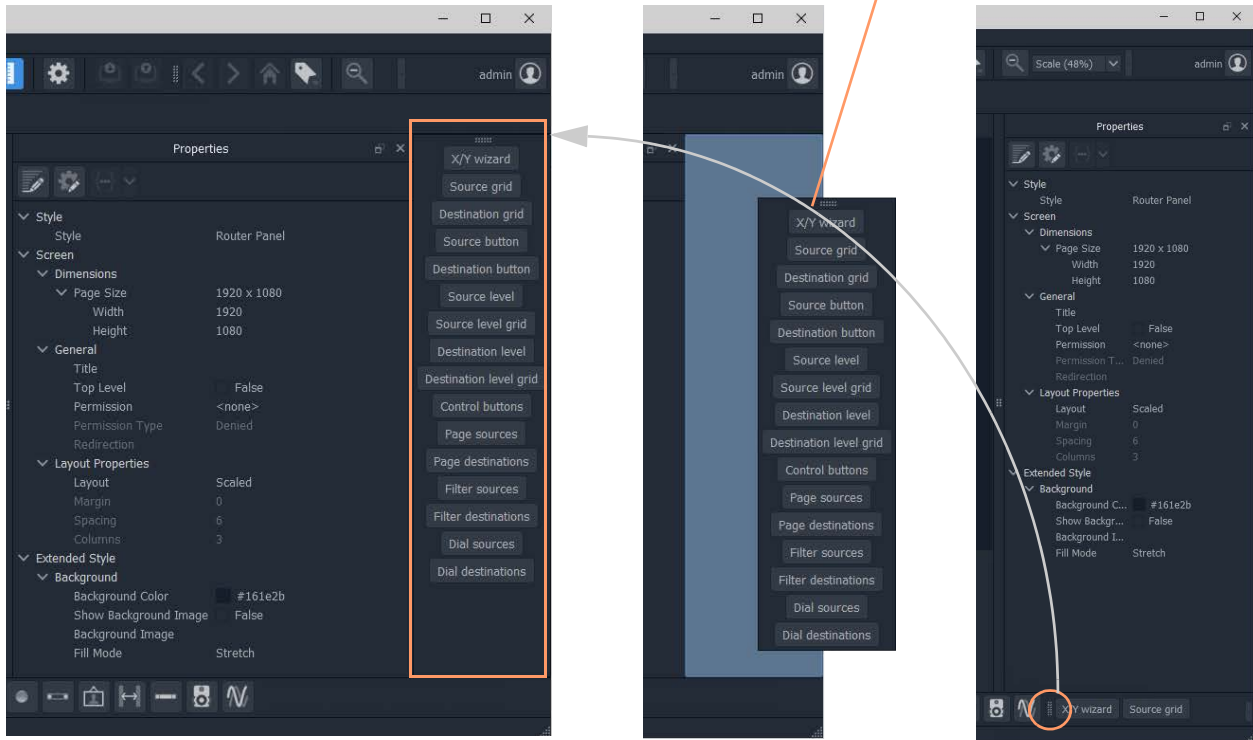

Fig. 14-40: Re-positioning the Routing Control Widgets Tool Bar
- 6 Drag the routing control widgets tool bar by its handle to a convenient position. See Figure 14-40.